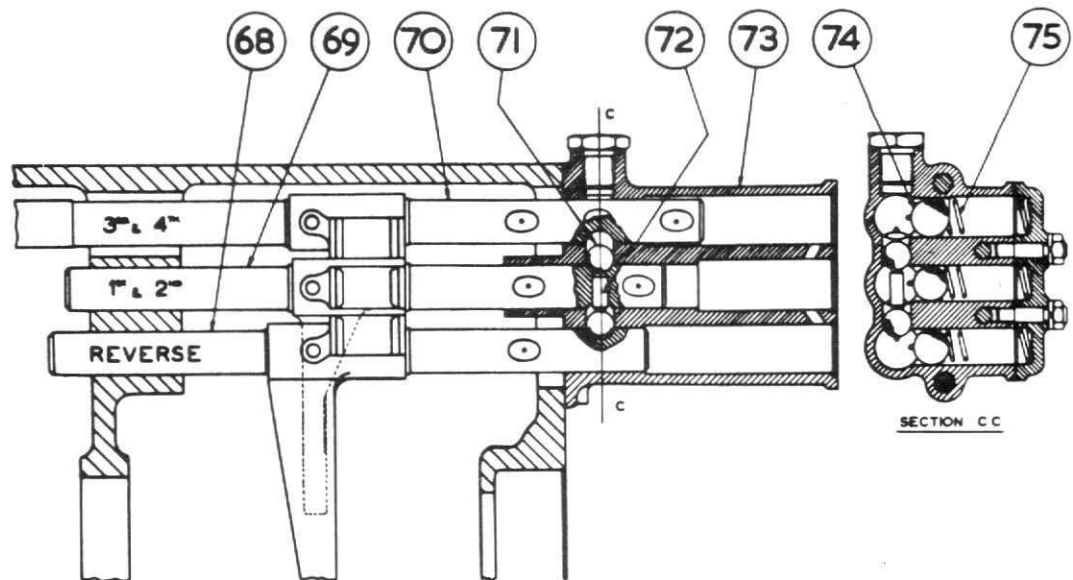

FIG.3. SECTION - SELECTOR SHAFTS & INTERLOCK MECHANISM.
(xix) Remove the spring loaded cover (secured by 2 nuts) from the bronze plunger housing at rear of gearbox and the three springs (75 Fig.3). Remove the plunger housing (73) as follows:-
- b) Collect the plunger mechanism pin (72) from the end of the centre selector shaft, also collect the two .375" dia. and the three .500" dia. steel balls (71 & 74).